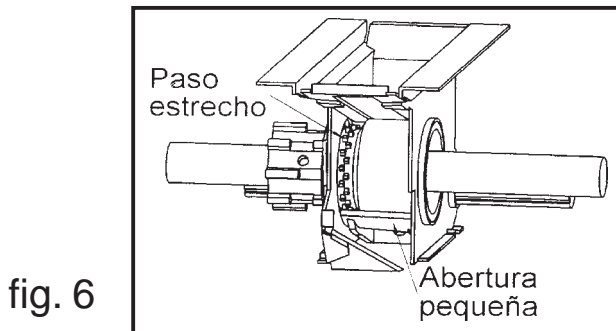

fig. 6
- Narrow cog with small teeth for small seed (fig. 6).
- To adjust the lower seed dispenser opening according to the grain size (figs. 6, 7 and 8).